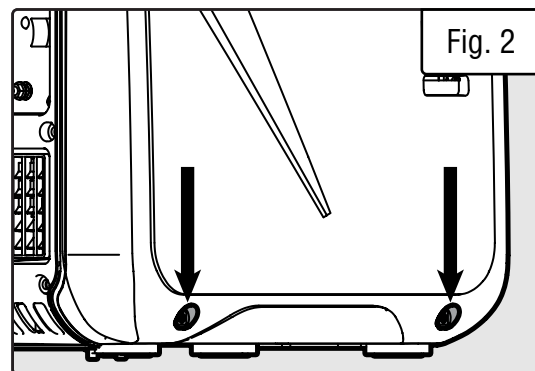

Fig. 2
2. Remove the screws from the right side panel and remove the panel to access the oil fill dipstick (Fig. 2).